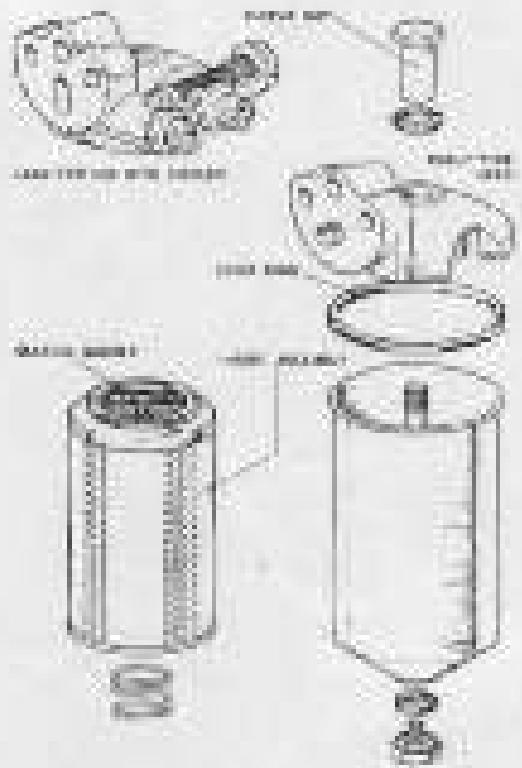

Fig. 10. "Forsman" oil filter.
- (c) Turn the oil filter in the latest "Yokes" type with a by-pass valve housing and two union bearings each integral with the head, remove the three blanks from the housing. Fit the by-pass valve into its housing, followed by the spring, see Fig. 10, then fit the blanking plug supplied in the modification set, together with one of the three sealing washers. Tighten the